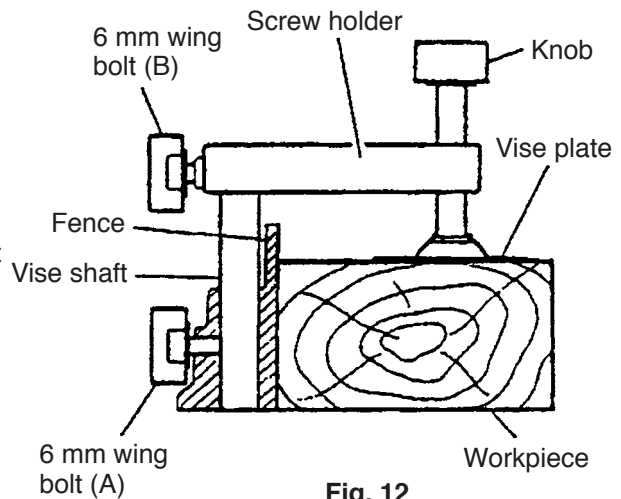

Fig. 12
- (1) The vise assembly can be mounted on either the left fence (fence (B)) or the right fence (fence (A)) by loosening 6 mm wing bolt (A).
- (2) The screw holder can be raised or lowered according to the height of the workpiece by loosening 6 mm wing bolt (B). After the adjustment, firmly tighten 6 mm wing bolt (B) and fix the screw holder.
- (3) Turn the upper knob and securely fix the workpiece in position (Fig. 12).